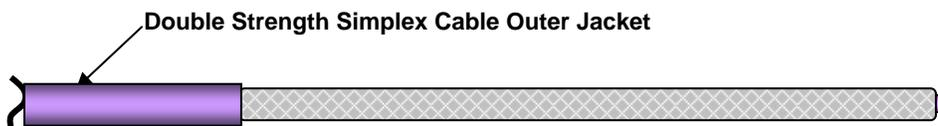

Figure 7-16 – Removing the Double Strength Simplex Outer Cable Jacket
- Step 2 - Carefully cut and remove the double strength simplex cable outer jacket back to the mark using hot tweezers. See Figure 7-16.